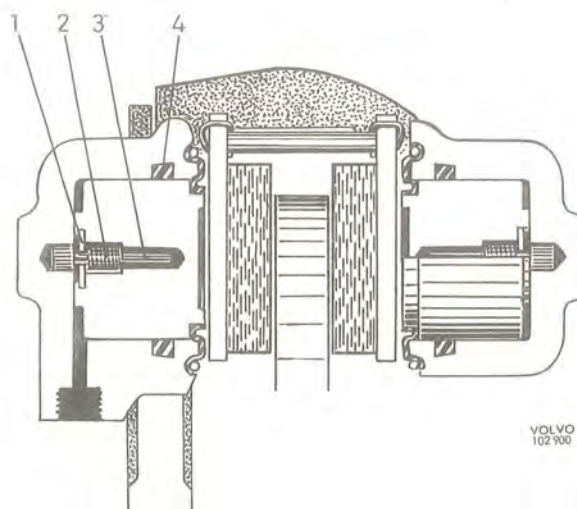

Fig. 5-15. Brake caliper with A.S.B. device
piston (and thus also the brake pad) is pressed against the brake disc and this removes the clearance. A. If distance A is now greater than distance B, this means that the washer (1, Fig. 5-15) is pulling the spring (2) with it in the direction of the brake disc. When the brake pedal is released, the piston is moved backwards by the sealing ring (4) so that clearances A and B are re-established.